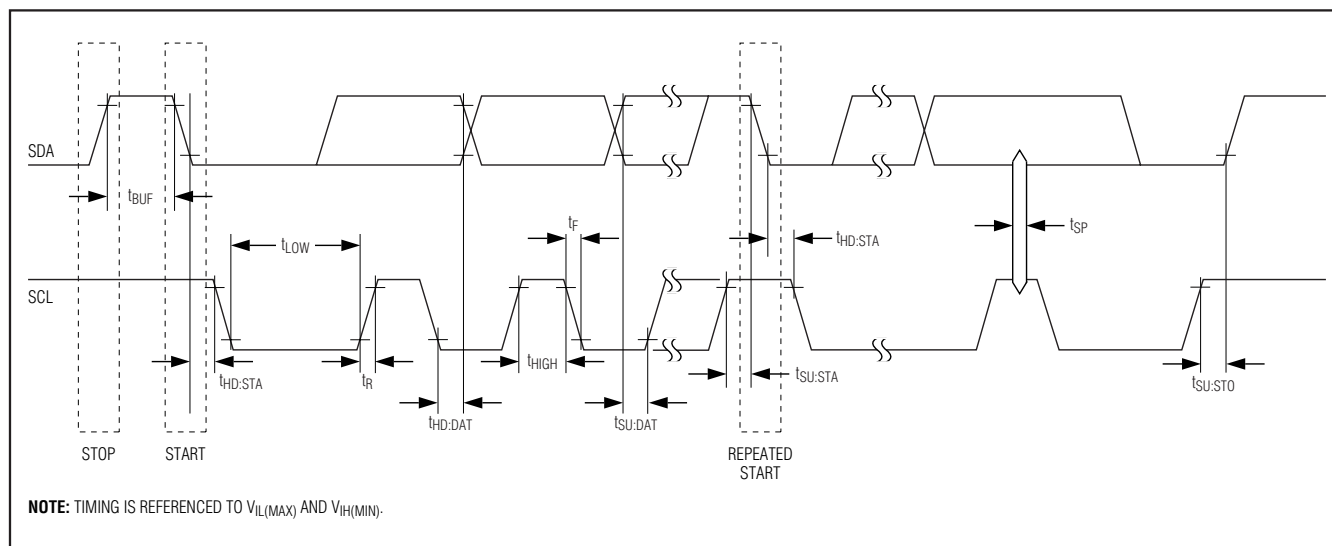

Figure 1. I2C Timing Diagram
**START Condition:** A START condition is generated by the master to initiate a new data transfer with a slave. Transitioning SDA from high to low while SCL remains high generates a START condition. See Figure 1 for applicable timing.
**STOP Condition:** A STOP condition is generated by the master to end a data transfer with a slave. Transitioning SDA from low to high while SCL remains high generates a STOP condition. See Figure 1 for applicable timing.
**Repeated START Condition:** The master can use a repeated START condition at the end of one data transfer to indicate that it will immediately initiate a new data transfer following the current one. Repeated STARTs are commonly used during read operations to identify a specific memory address to begin a data transfer. A repeated START condition is issued identically to a normal START condition. See Figure 1 for applicable timing.
**Bit Write:** Transitions of SDA must occur during the low state of SCL. The data on SDA must remain valid and unchanged during the entire high pulse of SCL, plus the setup and hold time requirements (Figure 1).
**Bit Read:** At the end of a write operation, the master must release the SDA bus line for the proper amount of setup time (Figure 1) before the next rising edge of SCL during a bit read. The device shifts out each bit of data on SDA at the falling edge of the previous SCL pulse and the data bit is valid at the rising edge of the current SCL pulse. Remember that the master generates all SCL clock pulses, including when it is reading bits from the slave.